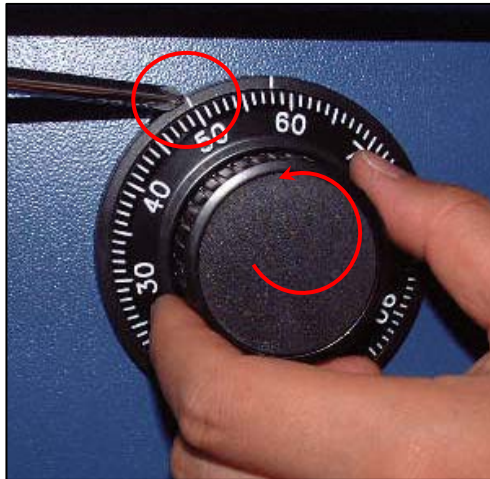

Fig.4.1
3. Turn to the counterclockwise for more than four times and set to "50" at left scale indicator as shown in the Fig.4.1.